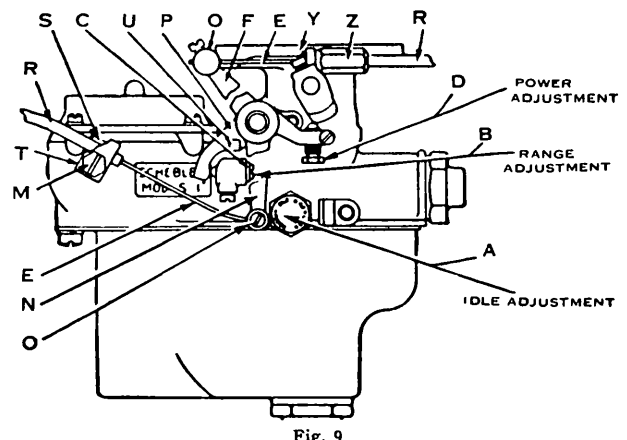

Fig. 9
**Control Hook-up, Starting and Adjusting.**—When using the loose lever (N, Fig. 9) the control tubing (R) is fastened in clamp (S) with screw (M) and the clip (T) on side of body just below the air funnel. Fasten the control wire (E) in the binding post (O) on loose lever (N) with the
**Idle Adjustment.**—Turn the idle adjusting knurl (A, Fig. 9) to the right for a lean mixture, and to the left for a rich mixture. To check the idle adjustment, warm up the motor thoroughly and by this we mean to have a hot motor. Then close the throttle, retard the spark all the way if car has manual spark control and then adjust idle stop screw so that motor will not idle less than five miles per hour on the road. After you have the proper idle engine speed then proceed to check the idle adjustment as follows: Turn the idle adjusting screw (A) to the right (clockwise) turning slowly, watching the motor fan at the same time and continue to turn in this direction, which is the lean direction, until the fan falters or in other words is not turning with a smooth, constant motion. Just as soon as the fan falters stop turning the idle adjustment (A) to the right (lean) and from this point turn the idle adjustment back to the left or rich direction exactly 6 clicks for summer driving and 8 to 9 clicks for winter driving, clicks can be felt while turning the idle adjusting knurl (A). This will give you an accurate setting on the idle adjustment providing you follow out all of these instructions just as we have outlined them.